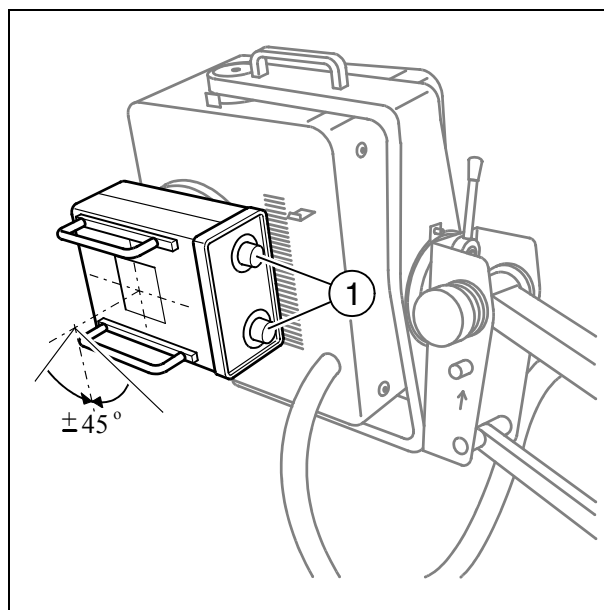

Fig. 4
- Check if the double-slot diaphragm can be turned easily at  $\pm 45^\circ$  (Fig.4).